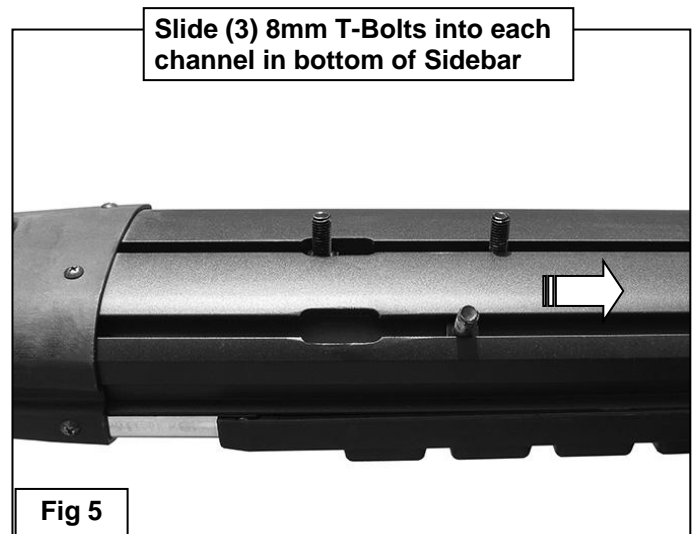

Fig 5
- Line up the front of the Sidebar approximately 2" back, (or locate as desired), from the front wheel opening. Attach the Sidebar to the Mounting Brackets with (6) 8mm Flat Washers, (6) 8mm Lock Washers and (6) 8mm Hex Nuts, **(Figure 5)**. Do not tighten hardware at this time.